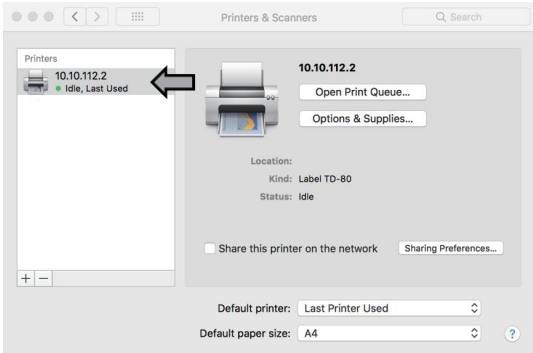

Fig.13
⑦ After installation is completed, the newly added printer driver will be listed under “Printers & Scanners” (see Figure 13).